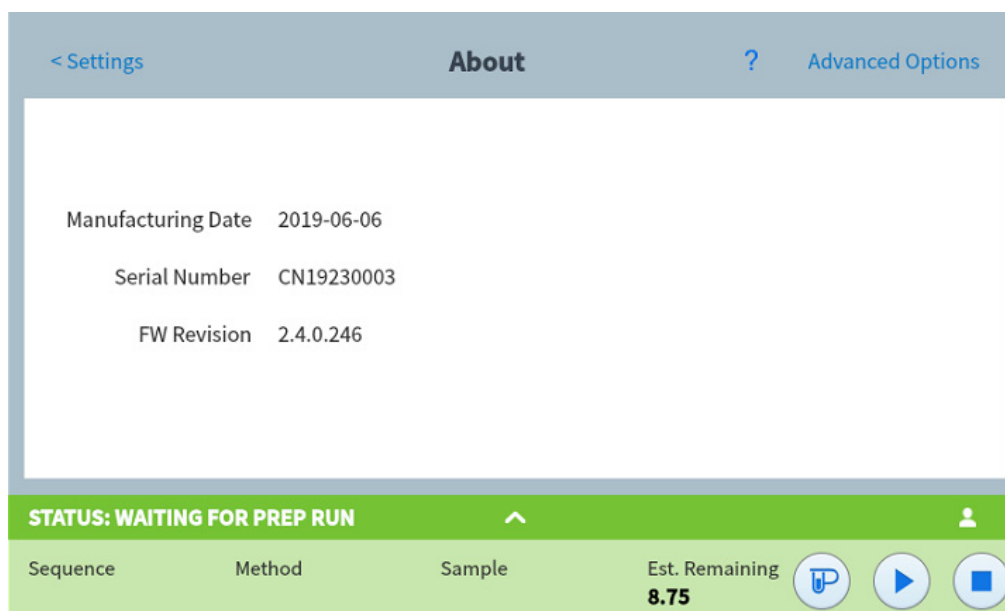

Figure 41 About page
- 2 Press **About**. The About page appears. See Figure 41.